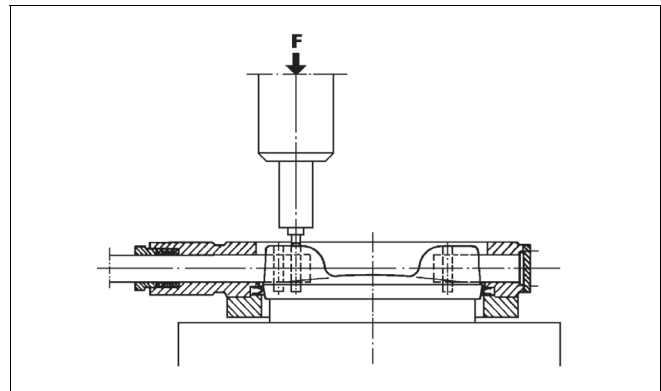

Fig. 16 Pressing the pins
- Support the disc well in a horizontal position during mounting of the pins. Push the new pins into the holes and press them in a press to final form (see Fig. 16). Use a smaller tool than the pin diameter. See Table 9 for forces.